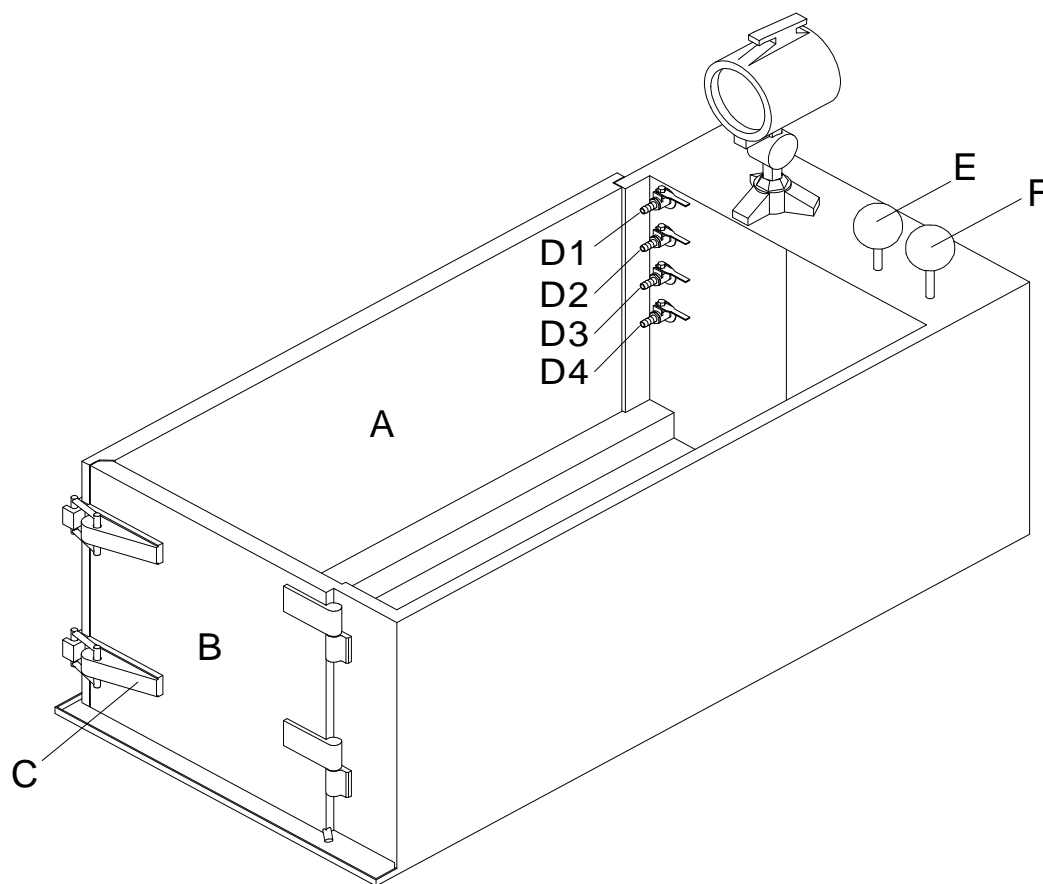
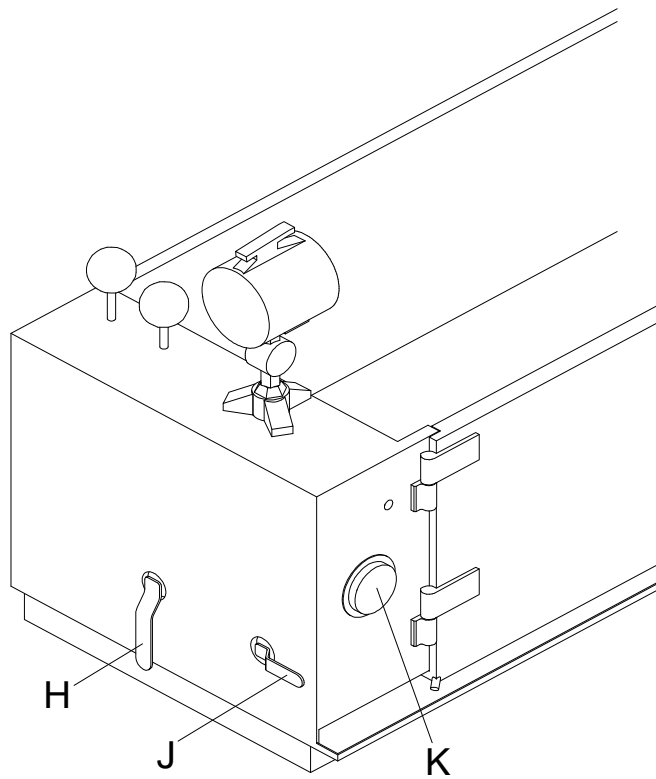

FIG. 4-1
FIG. 4-3
1. CLOSE WORK TANK DOOR AND LOCK IT. (FIG.4-1)
3. TURN RIGHT THE PULL STICK E OF DRAIN (FIG.4-1) AND IT WILL OPEN THE DRAIN GATE. (TURN C.W.)
6. PULL THE INLET ROD (H PART OF FIG. 4-3) TO HORIZONTAL POSITION. (MEAN “OFF” POSITION.)
1. DIELECTRIC FLUID PUMP: IF IT IS SPINNING IN THE DIRECTION OF ARROW MARK. (FIG 4-3) WHETHER PRESSURE IS ABOVE 1.5KG / cm² AT PRESSURE GAUGE.
3. OPEN D4 SLIGHTLY, AND MAKE SURE WHETHER THE SUCTION SWITCH-J(AS FIG. 4-3) IS IN GOOD-RUNNING OF FLUSHING FUNCTION WHEN IT IS AT THE HORIZONTAL POSITION -“ON”, (FIG 4-1) WHETHER IT IS IN GOOD-RUNNING OF SUCTION FUNCTION WHEN IT’S AT THE VERTICAL POSITION.
5. TURN THE INLET ROD OF DIELECTRIC FLUID -H (AS FIG. 4-3) TO HORIZONTAL “ON” POSITION , AND PRESS THE DIELECTRIC FLUID CONTROL “ON” SWITCH , THEN CHECK IF THERE ARE A LOT OF OIL ENTER WORK TANK AND TO THE INDICATED LEVEL?